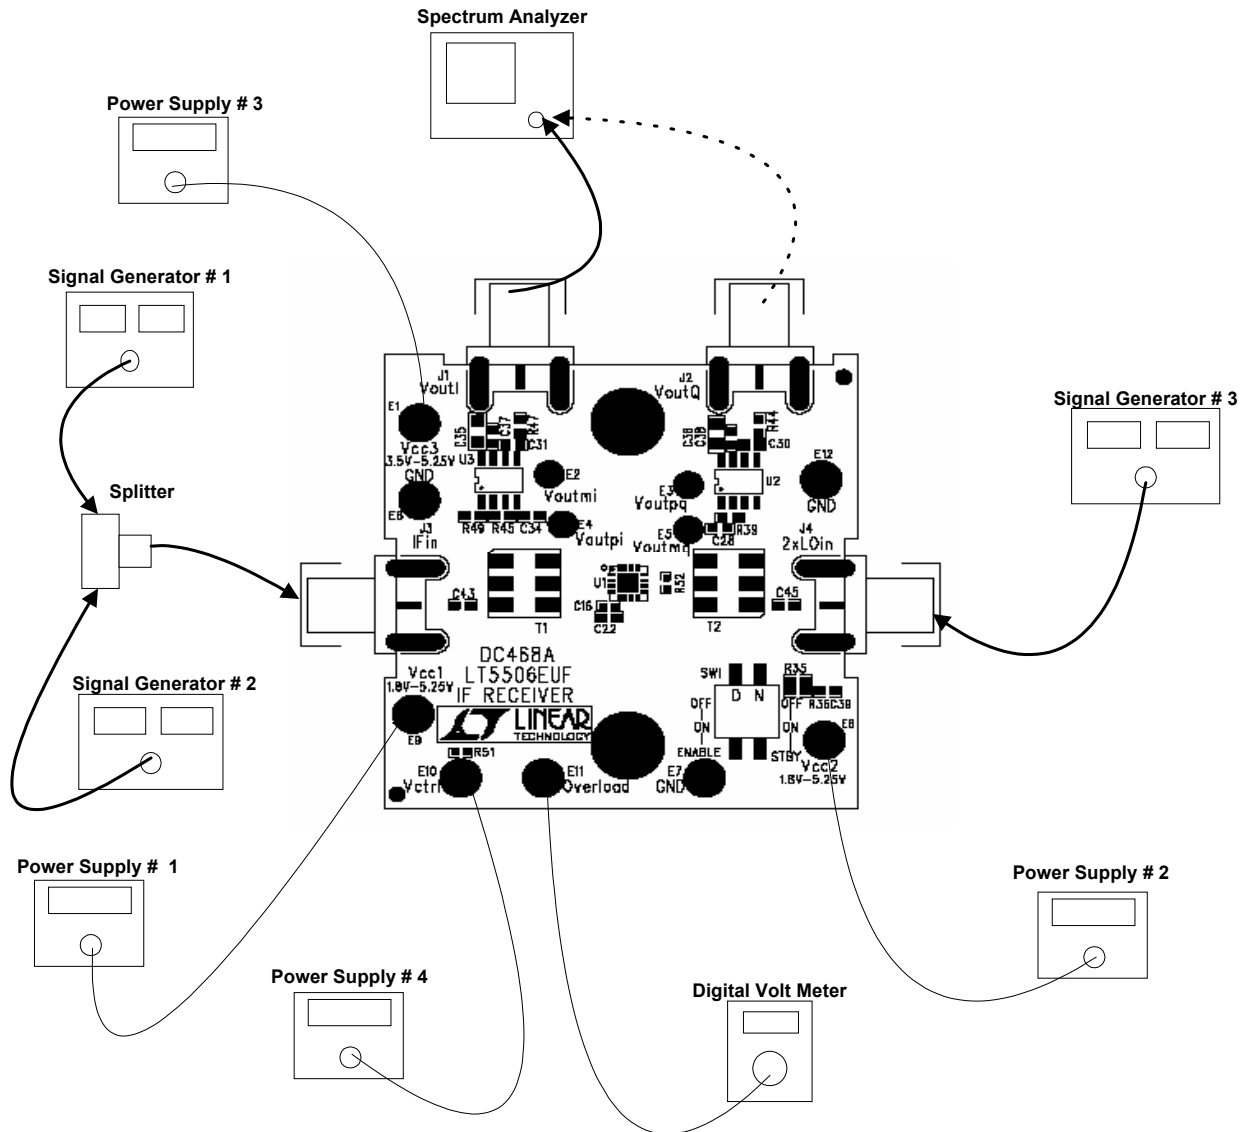

Figure 1. Test and measurement set-up
* NOTE: References for dipswitch positions (Upper and Lower) are given with regards to the demo board orientation shown on Figure 1.
- 1) Connect test equipment and Power supplies to the demo board as shown in Figure 1.